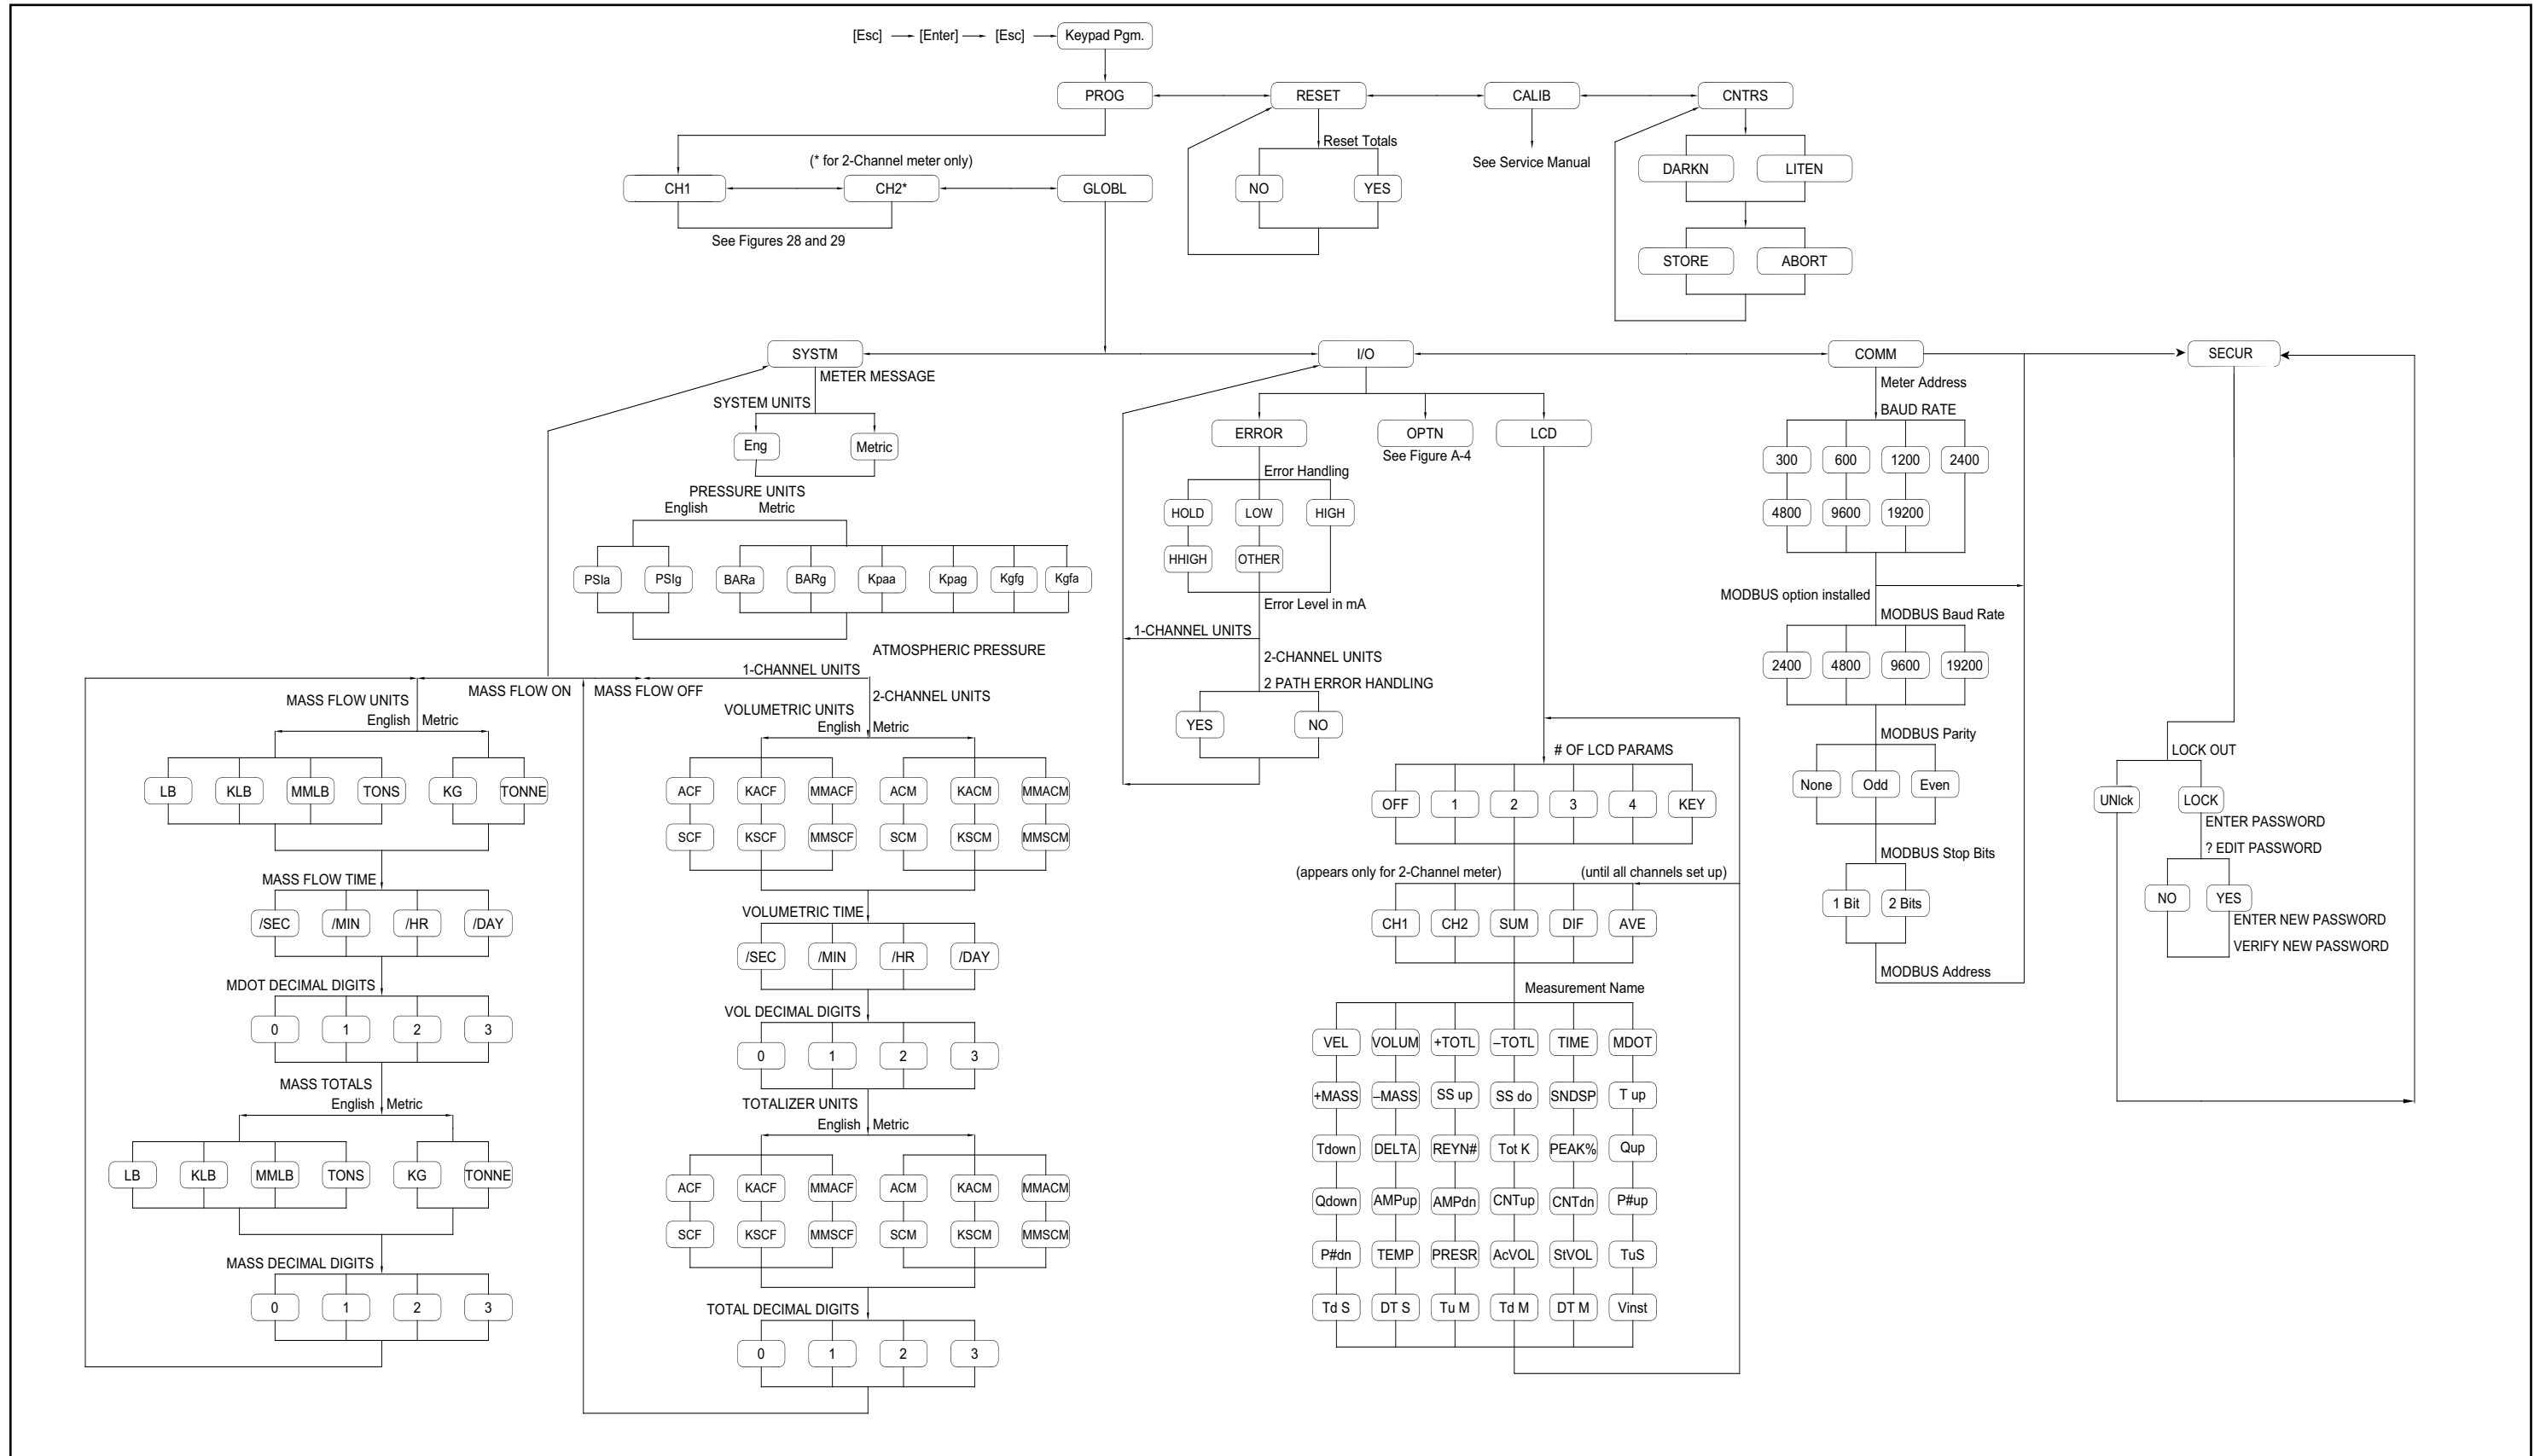

Figure 30: PROG > GLOBL > SYSTM, I/O & COMM Menus
- Figure 30, “PROG > GLOBL > SYSTM, I/O & COMM Menus,” on page 63